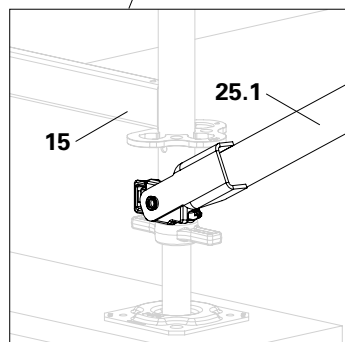

Fig. D7.07b
1. Vertically reinforce the multi brace (25) with an outer tube (25.1). Fit the outer tube onto the base standard (23) (Fig. D7.07b) and onto the inner tube (25.2), close to the outer tube. The assembly position has an impact on the support angle.